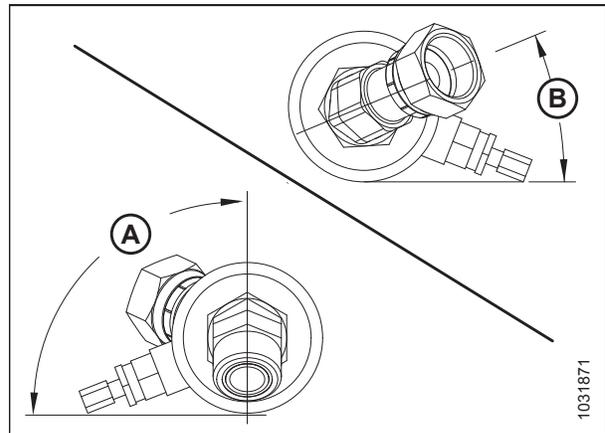

Figure 3.15: Suppressor Fittings Orientation
20. Loosely assemble suppressor (A) (MD #209069), elbow fitting (B) (MD #136418), adapter fitting (C) (MD #136501), and elbow fitting (D) (MD #136809) as shown. Refer to Figure 3.15, page 12 for fitting angles.